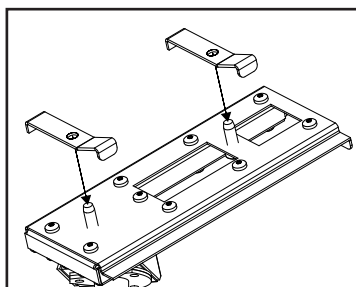

Figure 40: Left Burner LP Conversion
8. Install the LP Logs Spacers onto each of the log pins on the burners as shown in Figures 40 and 41.